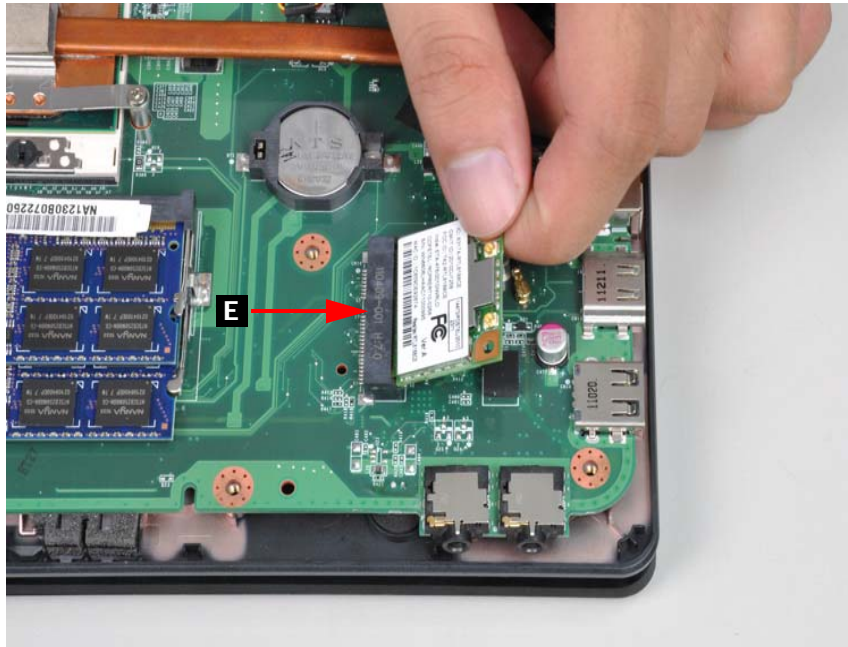

Figure 3-21. WLAN Module
5. Remove the WLAN module from the mainboard connector (E). Refer to Figure 3-21.
1. Place the WLAN module into the mainboard connector (E). Refer to Figure 3-21.